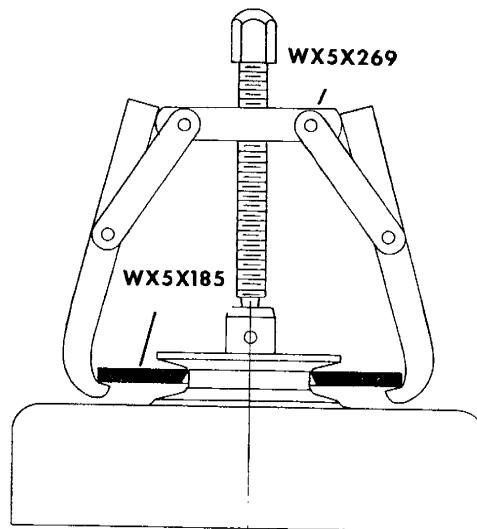

Figure 5
3. For help in removing stubborn clutch drums, use horseshoe collar, WX5X185 as shown in Figure 5. Use of the collar prevents or reduces damage to the pulley portion of the drum.